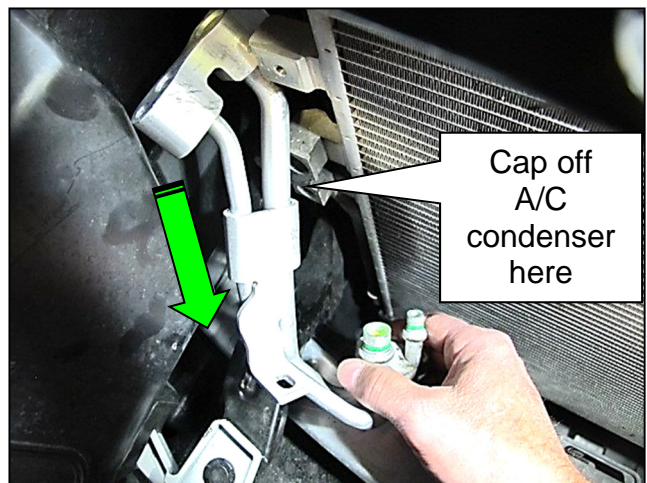

Figure 18
- b. Pull down on the A/C condenser pipe as it threads through the radiator core support to remove it from the vehicle (Figure 18).